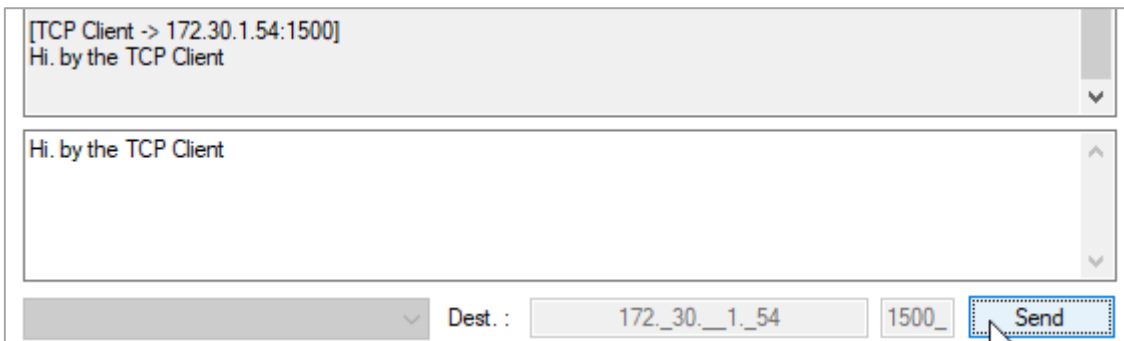

Figure 30: TCP Client Data Transfer
- **TCP Client:** Select the **TCP Client** option > Type a message > Click the **Send** button (see Figure 30)